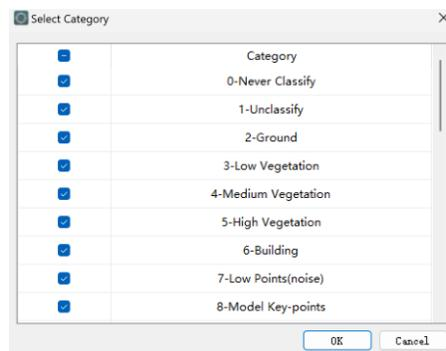

Figure 3-157 Select Category
- (2) You need to set the initial category and target category in the dialog box, click the <>>> button, and you can make multiple selections for the initial category in the Select Category dialog box (Figure 3-157).